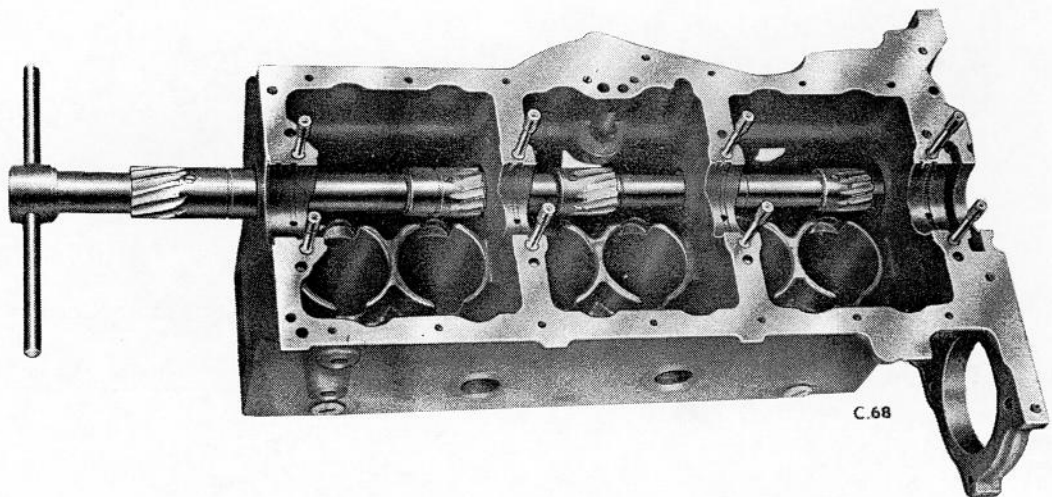

Fig. 31 Line reamer for camshaft bearings.
6. Ream the bearings to size as shown in Fig. 31. When reaming, lubricate the bearings and the reamers with a plentiful supply of clean oil, and insert the reamer assembly through from the front bearing. Continue rotating the reamer in the cutting direction as the reamer assembly is withdrawn, in order to prevent withdrawal scores in the bearings. Details of the line reamer are given under Special Tools at the end of this Section.